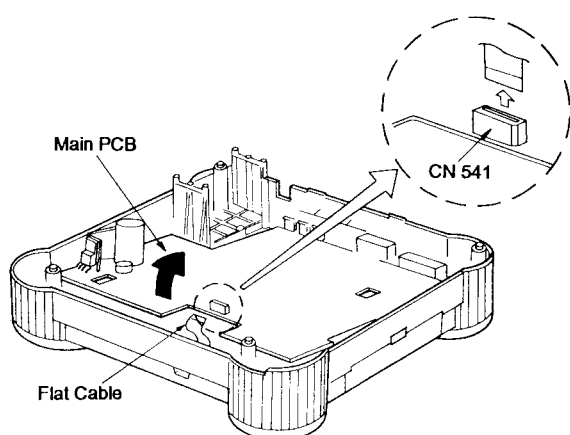

Figure 12
- (2) Disconnect the flat cable from connector (CN 541).
- (3) Gradually raise the front end of the main PCB and remove it from bottom cabinet as shown in Figure 12.